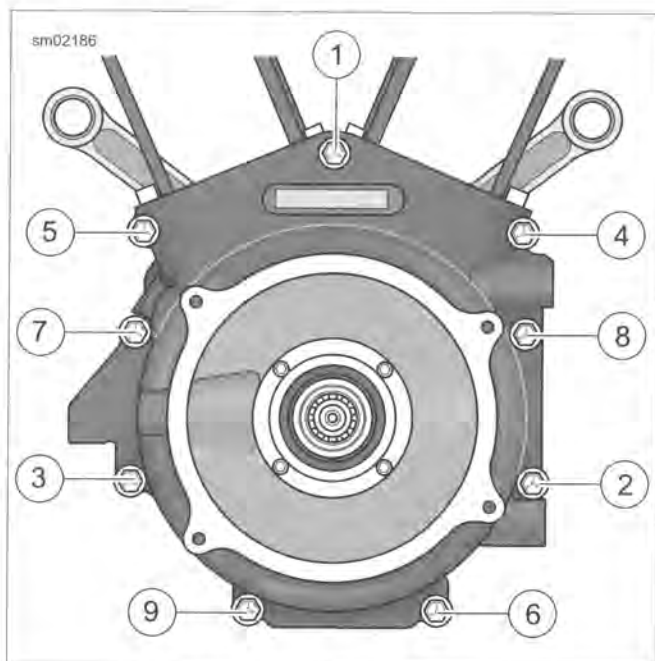

Figure 3-119. Crankcase Bolt Sequence
3. See Figure 3-119. Remove the nine crankcase bolts in the sequence shown.